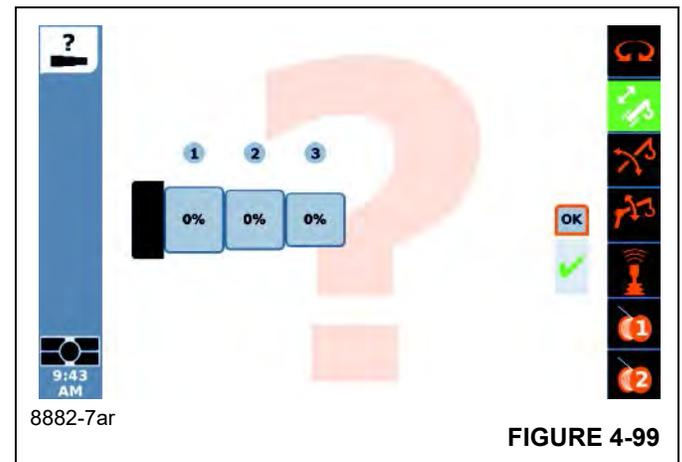
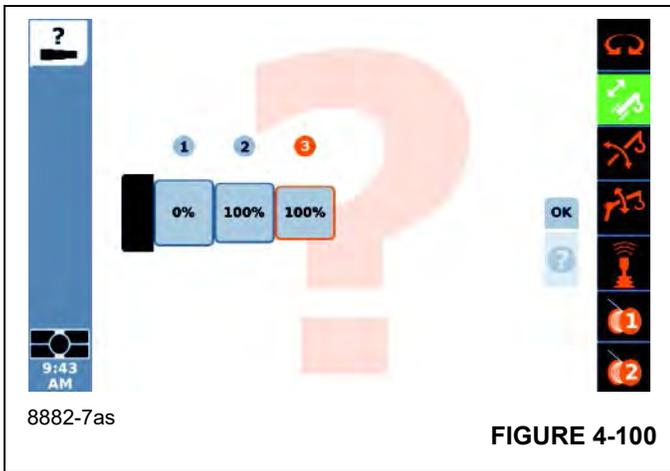

FIGURE 4-99
FIGURE 4-100
- When each of the spin boxes is set to the correct value or indication, then an Enter button can be used on the OK in the screen. If the control system confirms this boom configuration, then a check-mark appears below the OK (as in (Figure 4-99). Otherwise, the question mark shown under the OK (as in (Figure 4-100) will remain; in this case, the operator should repeat an attempt to enter the actual boom configuration.